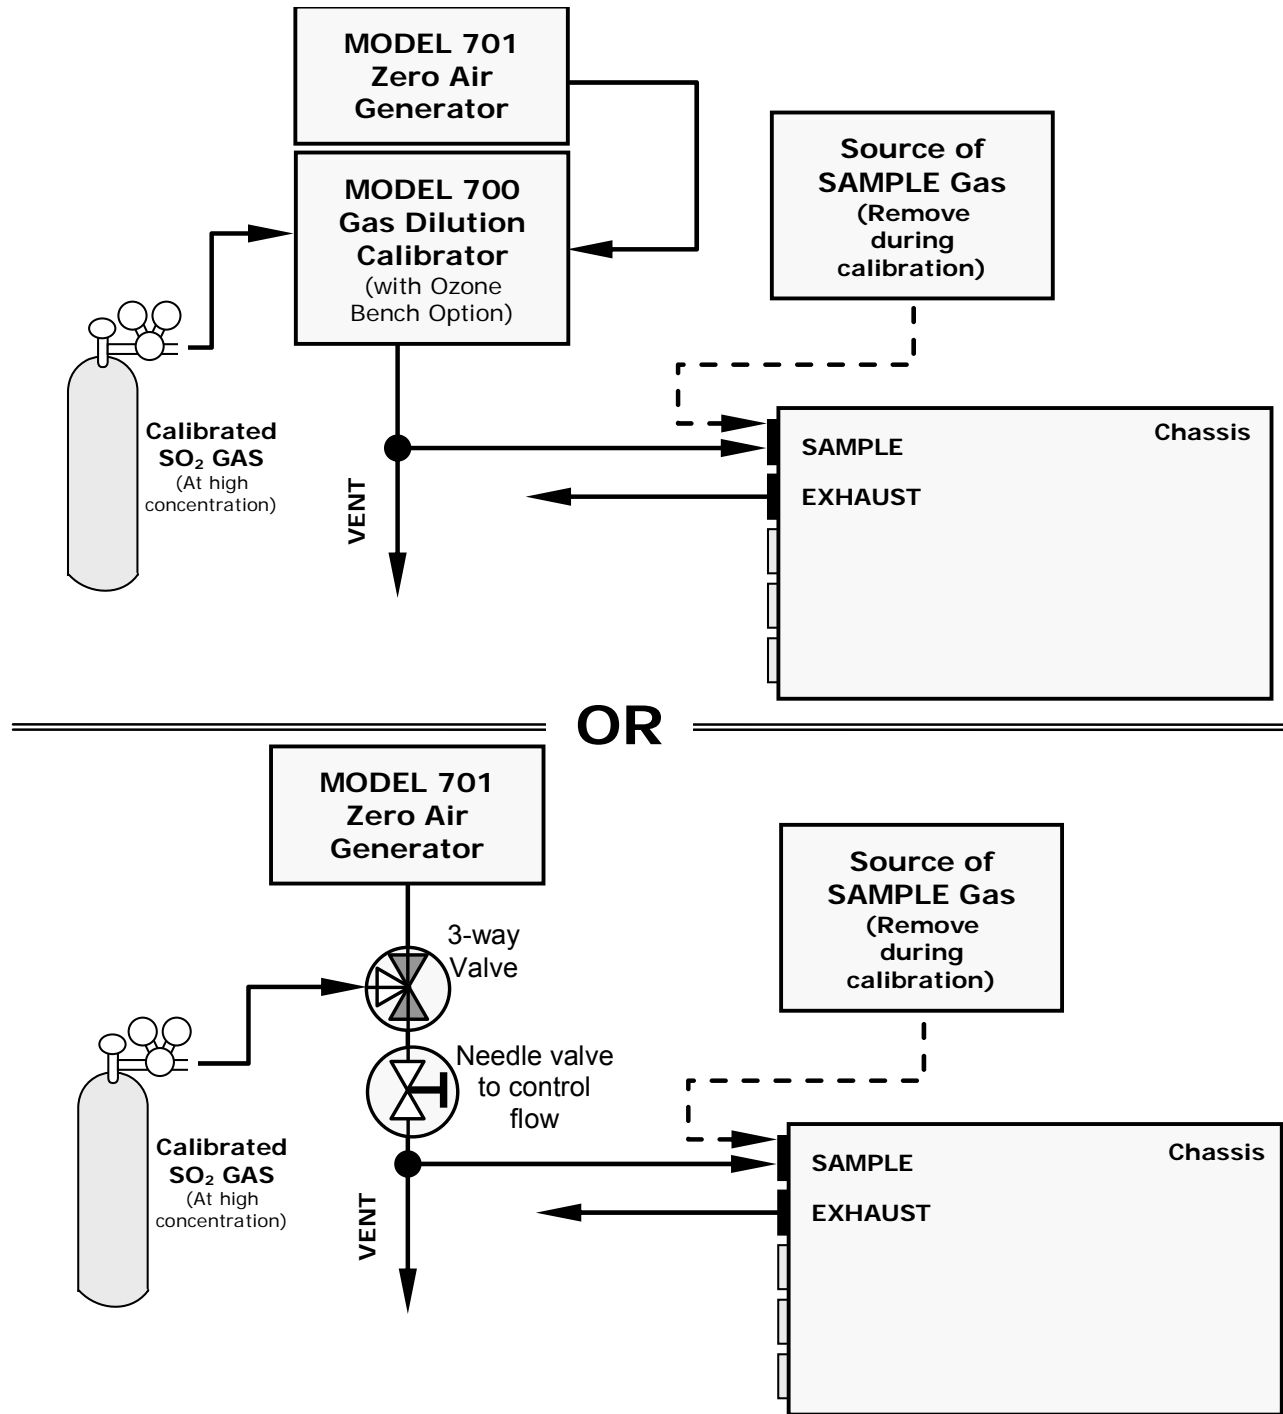

Figure 9-1: Setup for Manual Calibration without Z/S valve or IZS Option (Step 1)
**STEP ONE:** Connect the sources of zero air and span gas as shown in Figure 9-1.
- Zero air and span gas must be supplied to the analyzer through the sample gas inlet as depicted in Figure 9-1 of Section 9.2.